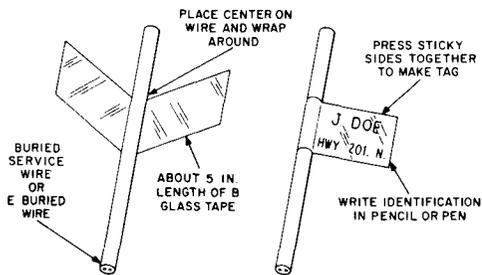

Fig. 1—Identifying Tags
1.06 Service wires should be identified at terminations by means of tags made from B glass tape. Cut about 5 inches of glass tape and wrap it around the wire, pressing the sticky side against itself to make the tag. It can be readily marked with pencil or pen to designate the subscriber or to identify the route of the wire. These tags are shown in Fig. 1.